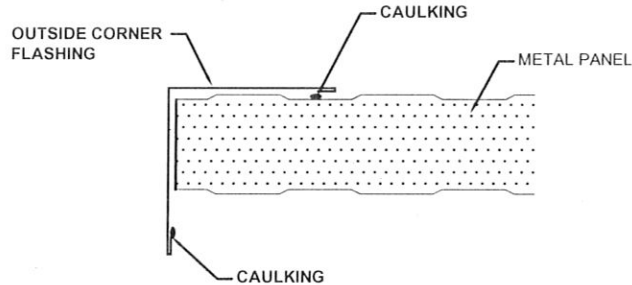

FIGURE 7
7.0 Start corner by erecting eave wall first. Install corner flashing prior to applying caulking under leading edge of corner as shown figure 7.